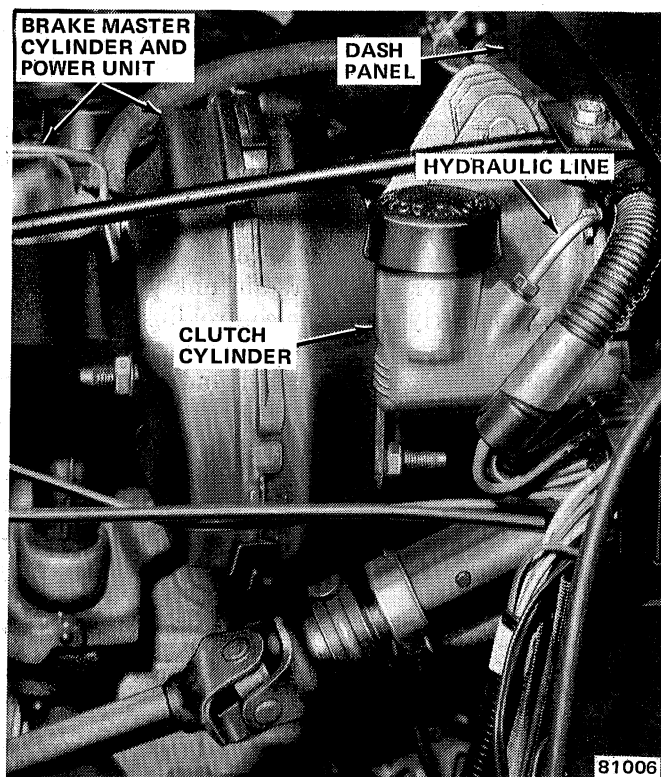

Fig. 2A-8 Clutch Cylinder Location
(1) Remove reservoir cap and rubber cover. Place cap and cover on clean, lint free paper or cloth.
(2) Remove push rod dust cover. Use screwdriver to pry cover off cylinder. Discard cover after removal.
(3) Remove snap ring that retains push rod in cylinder. Use needlenose pliers to compress ends of snap ring and remove ring from cylinder bore. Discard snap ring after removal.
(4) Remove push rod, retaining washer and seal as assembly (fig. 2A-9). Remove and discard push rod seal.
(5) Remove plunger, valve spring, and valve stem assembly from cylinder bore (fig. 2A-9). Tap cylinder body lightly on wood block to dislodge assembly from bore.
(6) Compress valve spring slightly and pry tab of valve stem retainer upward to release retainer, spring, and stem assembly from plunger (fig. 2A-10).
**NOTE:** *The retainer tab is located in the rectangular slot in the side of the stem retainer (fig. 2A-10). Use a small, thin blade screwdriver to pry the tab upward.*
(7) Remove seal from plunger (fig. 2A-9). Discard seal after removal.
(8) Remove spring retainer and valve stem from valve spring.
(9) Remove valve stem from retainer and remove spring washer and stem tip seal from end of valve stem (fig. 2A-9). Discard stem tip seal and spring washer.
(10) Clean all parts thoroughly with brake fluid or brake cleaning solvent only.
(11) Inspect cylinder bore for cracks, porosity, wear, deep scoring or nicks, and severe corrosion or pitting. If bore exhibits any of these conditions, replace cylinder.